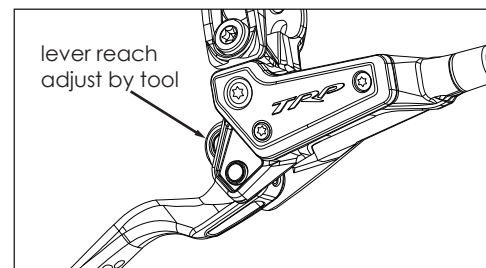

Fig 3
- Once you have the lever assembly positioned appropriately, you can adjust the reach of the blade to suit your preference. (Fig.3)